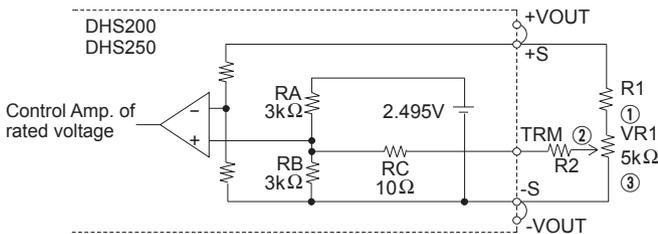

Fig. 3.6 Connecting External Parts (DHS250)
(1) Output voltage adjusting
■ Output voltage can be adjusted by connecting an external potentiometer (VR1) and resistors (R1 and R2) as shown in Fig. 3.6. Output voltage will increase if the resistance between ① and ② is reduced by turning the potentiometer clockwise. Recommended values for external components are shown in Table 3.3. Consult us if the power module is used in a different configuration.